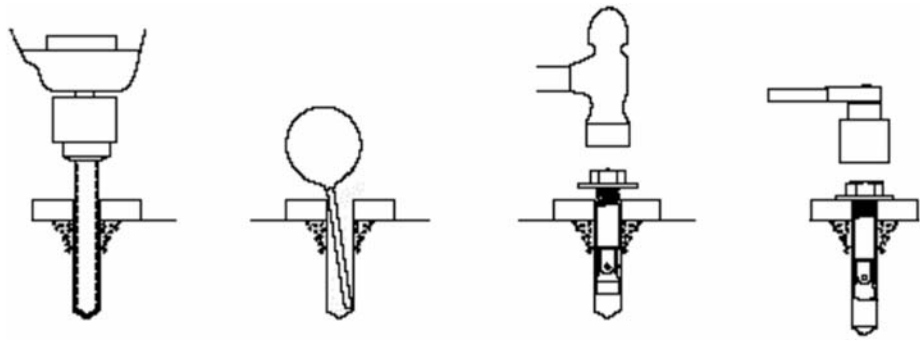

Fig. 5-2 Fastening to the floor
- ▶ Dowel the machine as follows (Fig. 5-2, page 21):